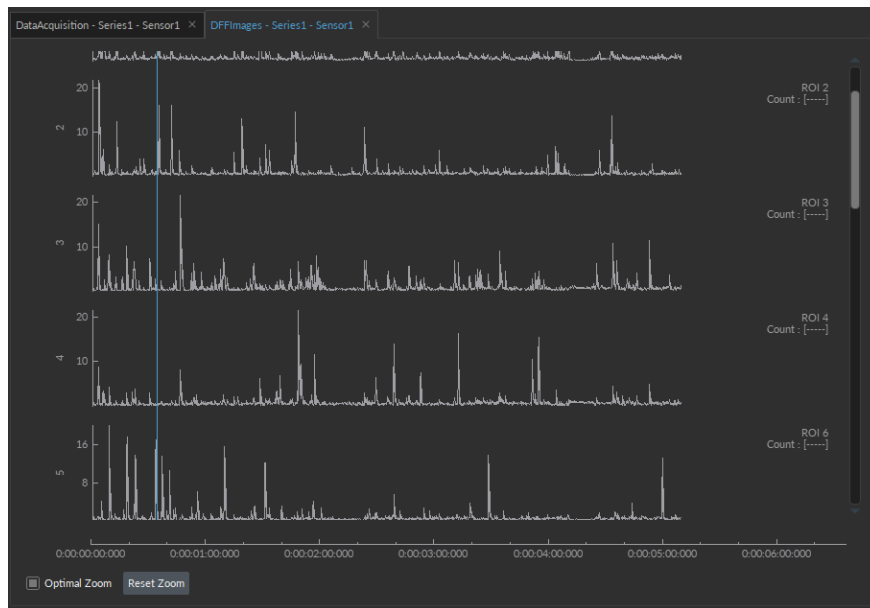

Figure 15.10: ROI View Graph
3. The **ROIs View** panel shows the plot of average intensity as a function of the frame index. The Y-axis represents the average count of all the pixels of the ROI or the variation to the baseline for ROI on normalized images. Each trace on a separate graph represents an ROI, allowing for precise intensity measurements (see Fig. 15.10)